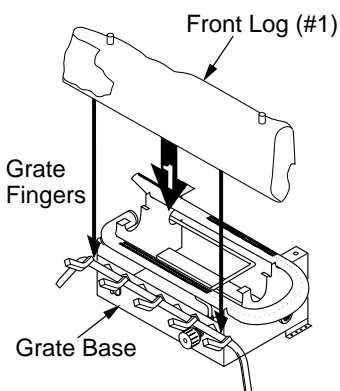

Figure 27 - Installing Front Log (#1) (CCL3930NTA Shown)
1. Place the front log (#1) on the grate fingers. Make sure the front log rests firmly between the grate fingers and the grate base (see Figure 27).